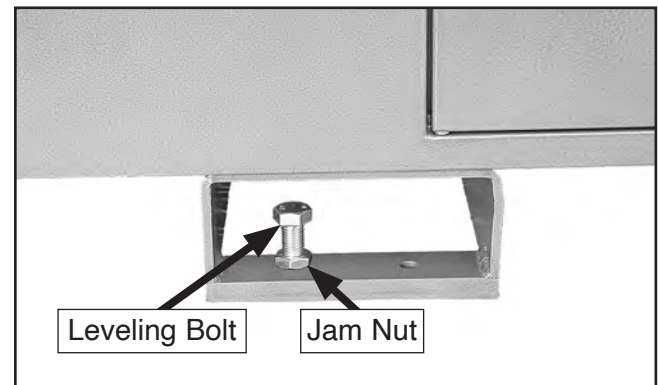

Figure 16. Location of leveling bolts with jam nuts (1 of 4).
7. Stabilize machine by loosening jam nuts and rotating leveling bolts (see **Figure 16**) until machine is level, then tighten jam nuts to secure. The leveling bolts are located at each corner of machine.